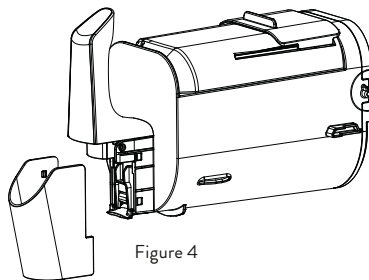
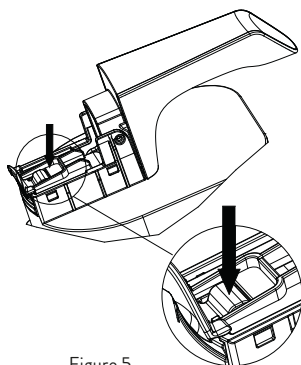

Figure 4
Figure 5
3. Clean the outlet: remove the cover (Figure 4), press the holder at the locking point, open the outlet handle and remove the assembly (see Figures 5 + 6). Clean thoroughly and reassemble in reverse order.